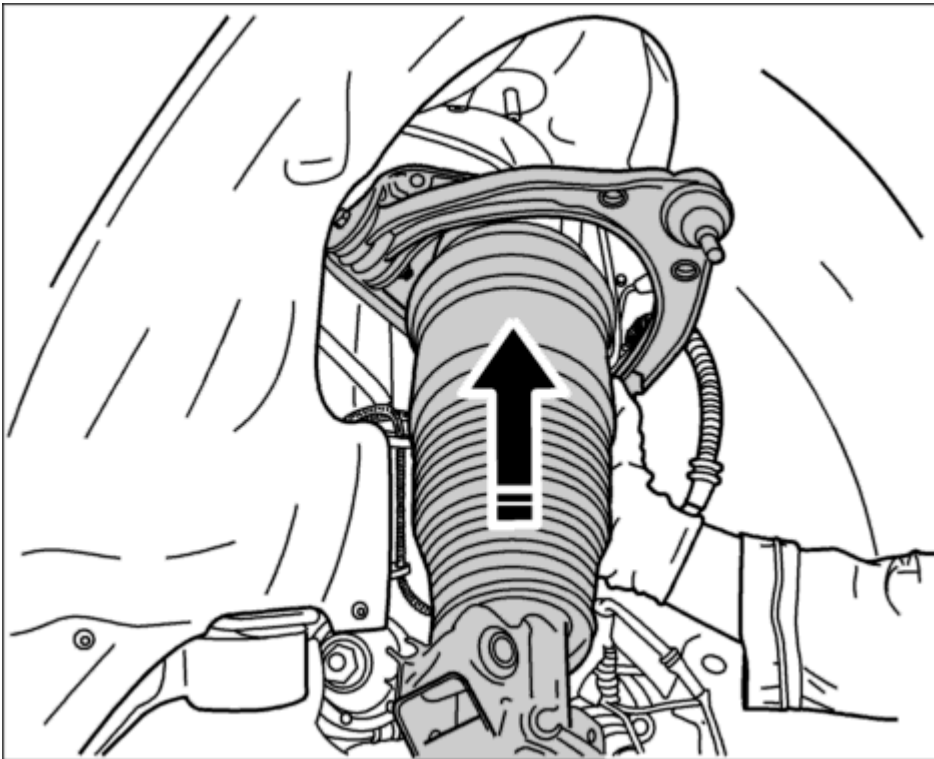

Fig. 95: Installing front spring strut
1. Carefully guide in spring strut -**arrow**- , position with the auxiliary pins and tighten at the mounting saddle with the specified tightening torque Refer to **40 TW Tightening torques for front axle - as of MY 2003 (All Models)** . See **Fig. 95**.